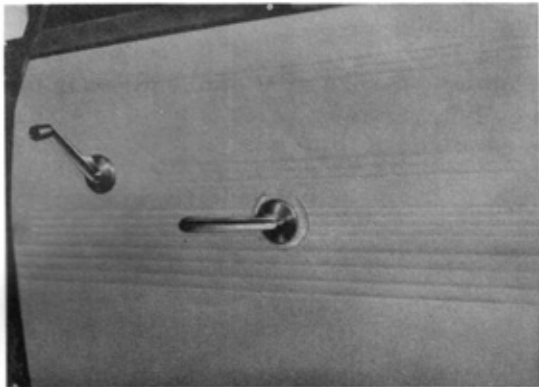

Fig.1-41 Door Handle Location V0412
13. Install the door inside handle and door window regulator handle so that the locations of them will be as illustrated in the Fig. 1-41 on next page when raising the window glass all the way.